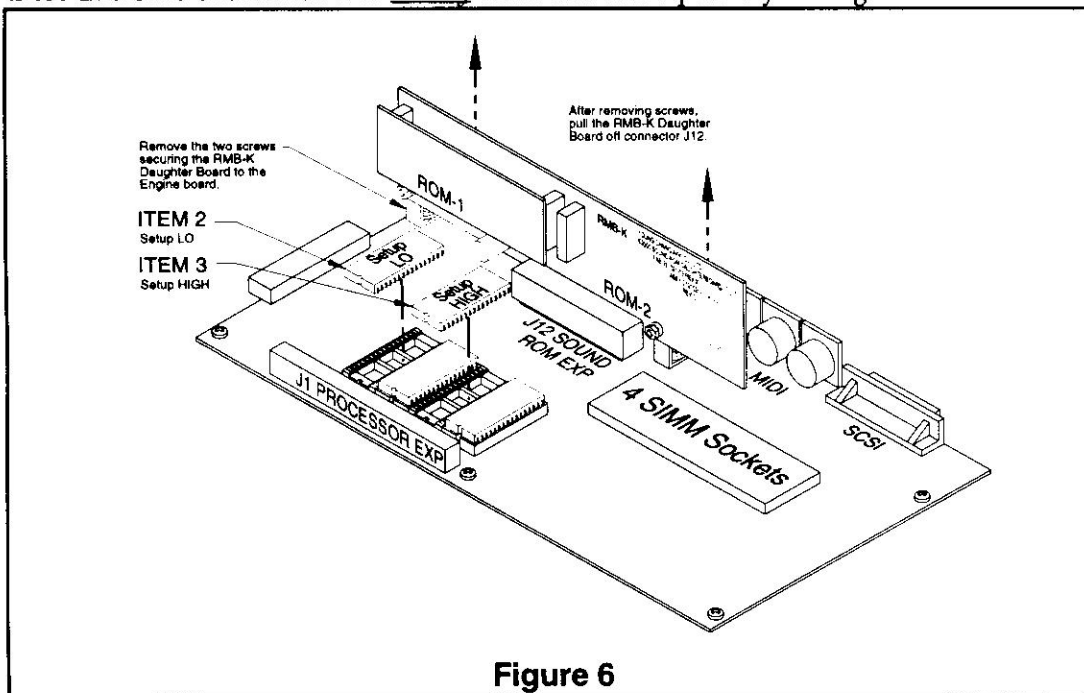

Figure 6
4. See Figure 6. Take Item 2, Setup LO EPROM, and place it into the left-most socket. Be sure that the notch in the EPROM indicating pin one is facing J1. Gently push the EPROM into the socket, making sure that all pins are inserted correctly. Be careful not to bend any pins.
5. See Figure 6. Take Item 3, Setup HIGH EPROM, and place it into the second socket from the right. Be sure that the notch in the EPROM indicating pin one is facing J1. Gently push the EPROM into the socket, making sure that all pins are inserted correctly. Be careful not to bend any pins.
6. See Figure 6. Looking at the Engine PCB with the MIDI & SCSI connectors facing away from you, locate J12, the 48 pin connector labeled "SOUND ROM EXP". It is to the left of the SIMM sockets and above the software and setup EPROMs. Currently installed in this connector is the RMB-K Daughter Board with one of the ROM Boards.
7. See Figure 6. Remove the two Engine Board mounting screws which go through the RMB-K Daughter Board mounting brackets. Then carefully disconnect the RMB-K Daughter board from connector J12.
8. See Figure 6. Take Item 2, Setup LO EPROM, and place it into the left-most socket. Be sure that the notch in the EPROM indicating pin one is facing J1. Gently push the EPROM into the socket, making sure that all pins are inserted correctly. Be careful not to bend any pins.
9. See Figure 6. Take Item 3, Setup HIGH EPROM, and place it into the second socket from the right. Be sure that the notch in the EPROM indicating pin one is facing J1. Gently push the EPROM into the socket, making sure that all pins are inserted correctly. Be careful not to bend any pins.
10. See Figure 6. Looking at the Engine PCB with the MIDI & SCSI connectors facing away from you, locate J12, the 48 pin connector labeled "SOUND ROM EXP". It is to the left of the SIMM sockets
11. See Figure 6. Remove the two Engine Board mounting screws which go through the RMB-K Daughter Board mounting brackets. Then carefully disconnect the RMB-K Daughter board from connector J12.